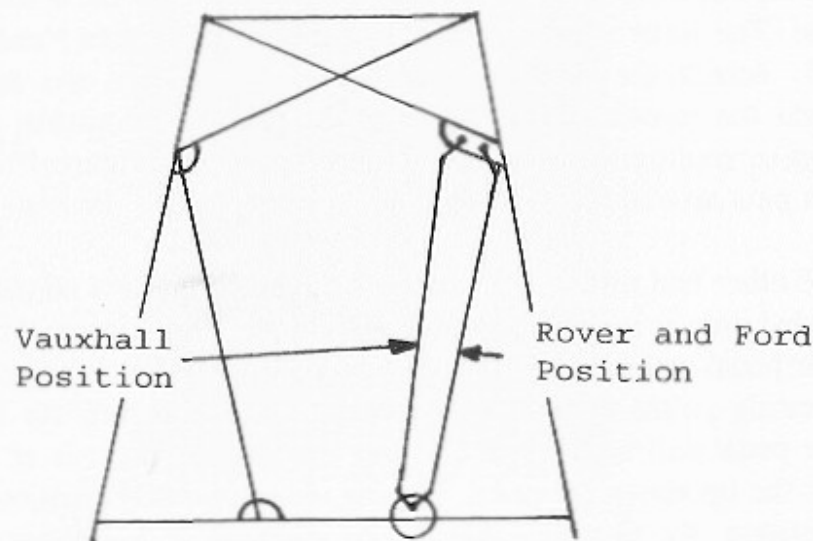

Figure 10.4.20 Upper Engine Bay Diagonals
4.20 Refit the upper engine bay diagonals as shown in figure 10.4.20, torquing the 5/16" x 1 3/4" caphead bolts to 25 lbft.